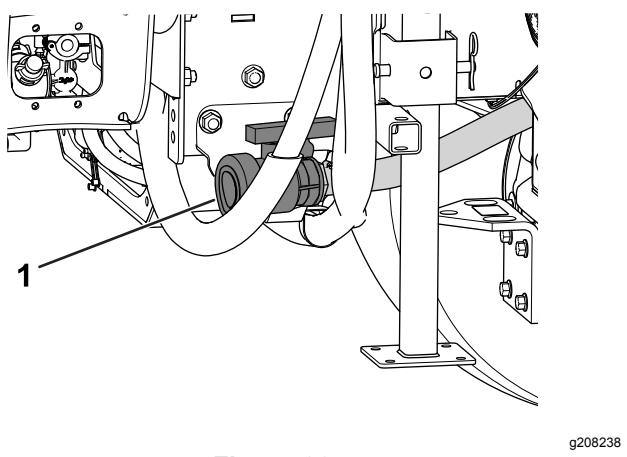

Figure 93
2. Locate the tank drain valve on the right side of the machine (Figure 93).